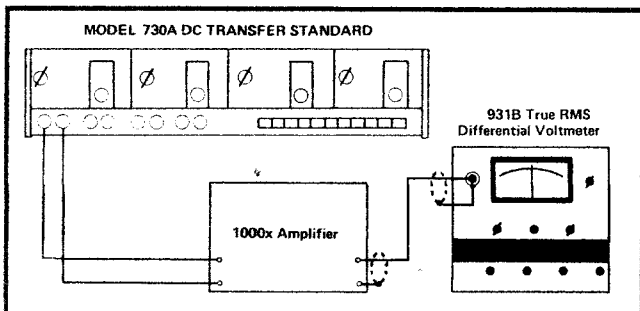

Figure 4-3. EQUIPMENT CONNECTIONS FOR 1 Hz TO 1 MHz OUTPUT NOISE TEST.
- Connect equipment as shown in Figure 4-3.